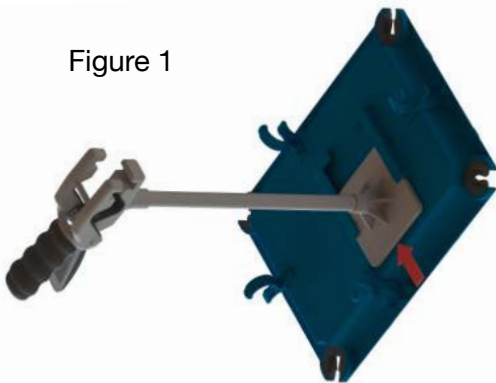

Figure 2
- Anestand can easily be mounted to an IV pole or OR bed rail using the versatile Gibbs clamp. (Figures 2 and 3)